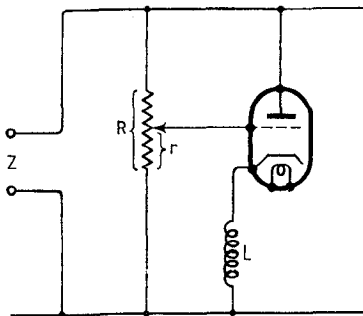

Fig. 1. Indicates how an ideal cathode-follower may be used to obtain a large effective inductance
**Modulation Principle.**—The alternative method of "direct reactance modulation," which can give constant amplitude over a wide frequency range, does not use phase-shift networks at all, but depends on the principle\* that the effective value of any impedance can be altered simply by arranging that although the current flows unchanged, the voltage actually applied to the impedance is only a definite fraction of the whole. Fig. 1 indicates how this principle can be used to obtain a large effective inductance, for if the valve is considered as an ideal cathode-follower, then the voltage swing actually applied to  $L$  is only  $\frac{r}{R}$